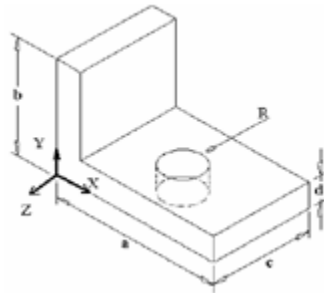

Fig.1.
c) Create the CSG model of the solid shown in the figure 1.